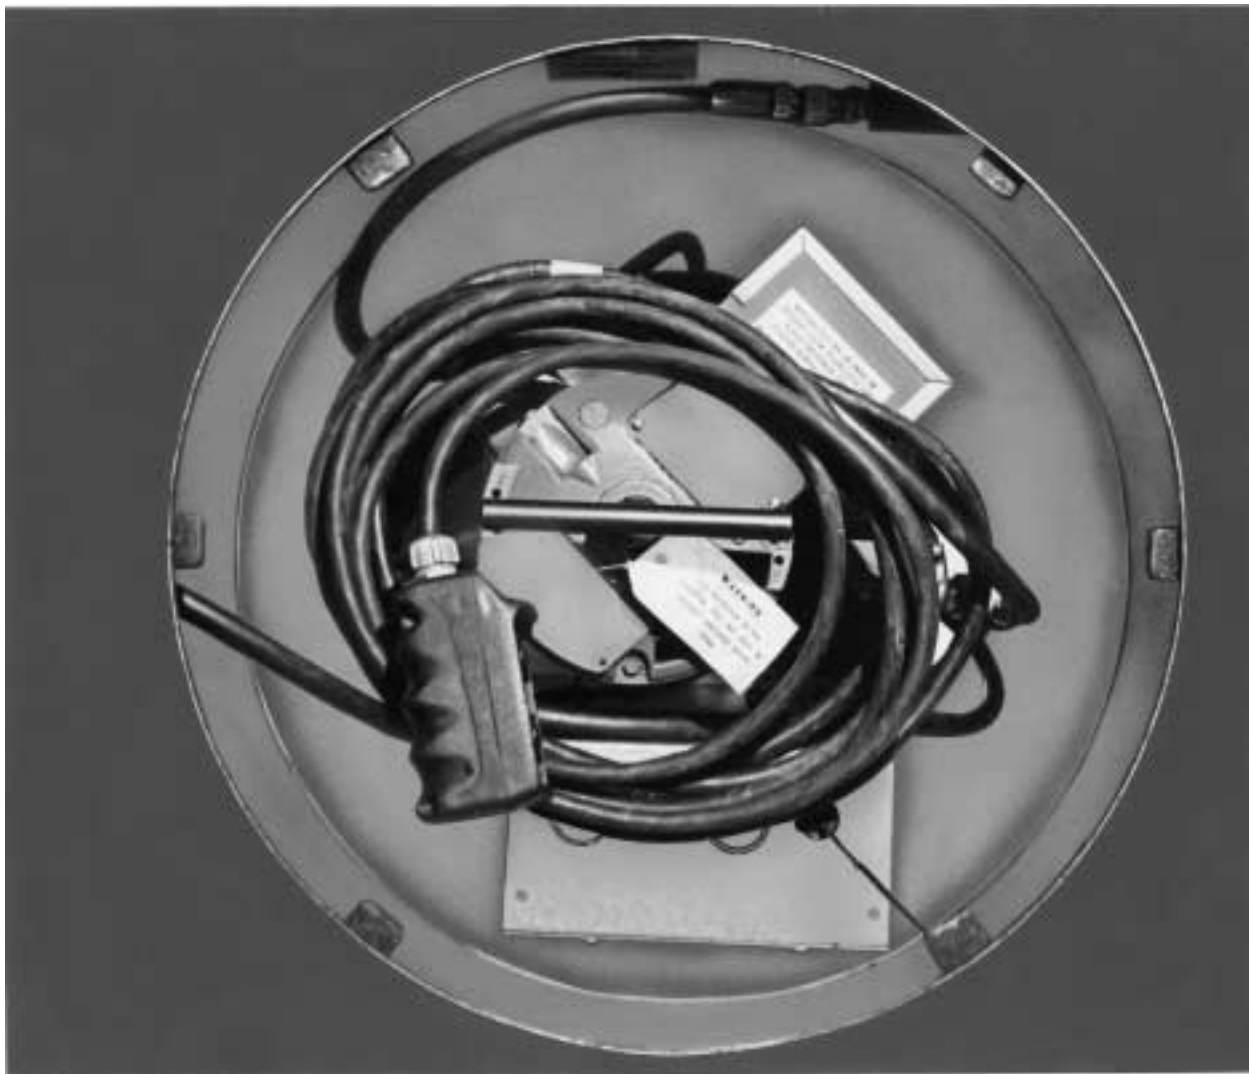

Figure 19
2. Coil remote control switch cord and position it on top of motor as shown in Figure 19.
2. If remote control switch cord was coiled and positioned on top of motor, as shown in Figure 19, route hand-held control unit out through bottom of pedestal.